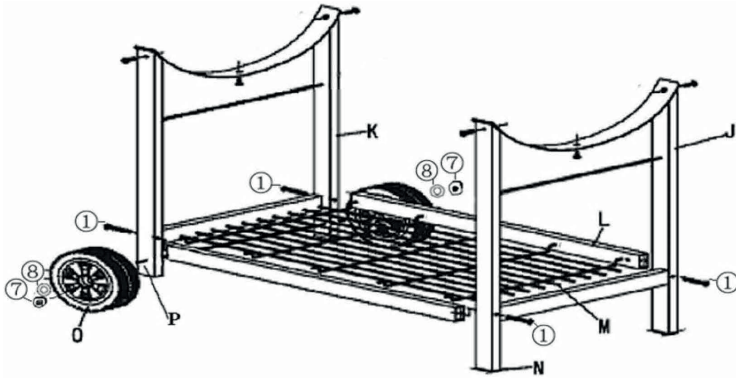

Fig. 1
1. Mount the metal tubes (L) to the support legs (J) and short support legs (K) using bolts (1). **(Fig. 1)**
2. Slide the axle (P) through the holes of the short support frame (K). Fit the wheels (O) to the axle (P) using nuts (7) and washers (8). **(Fig. 1)**